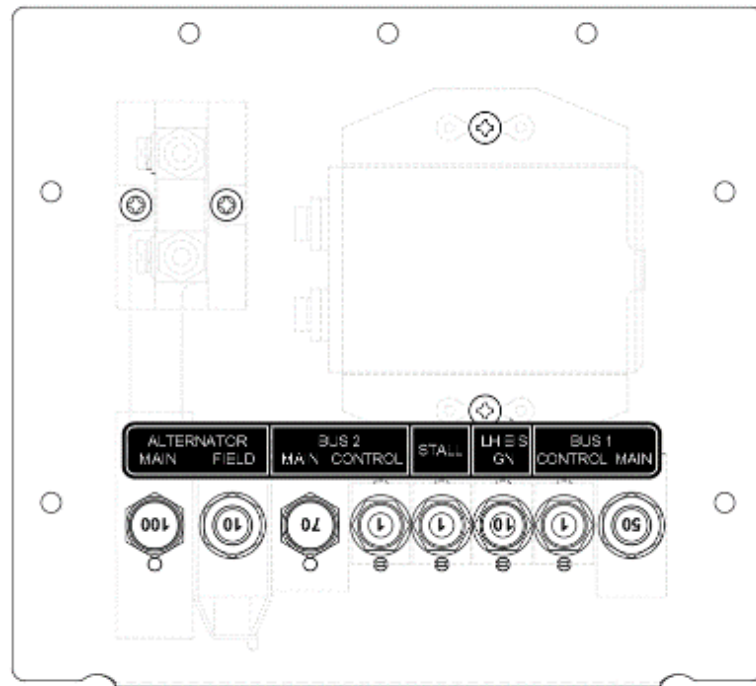

Figure 2 – Circuit Breaker Panel Assembly (top view)
18. Apply Breaker Panel Placard (item 6) to the Circuit Breaker Panel (item 3), refer Figure 2.